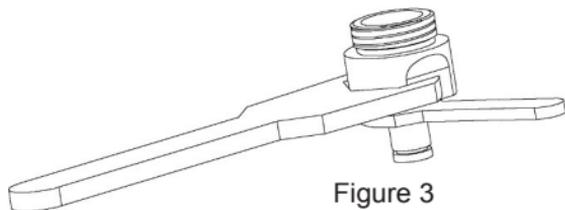

Figure 3
Step 3: Use a wrench to hold the Gladiator bottom works in place as you tighten the air fitting into place (as shown in figure 3).